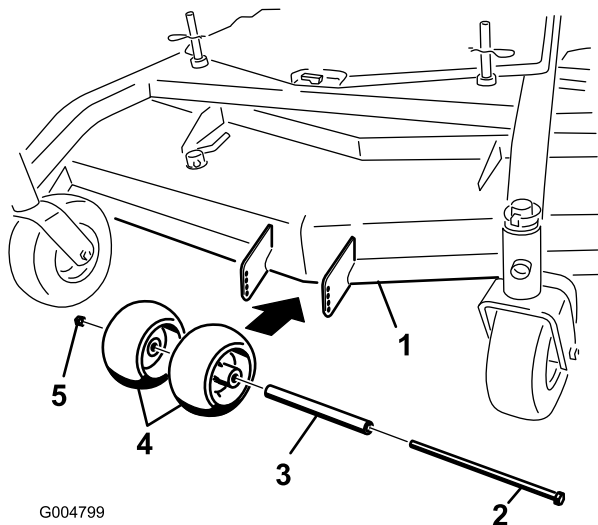
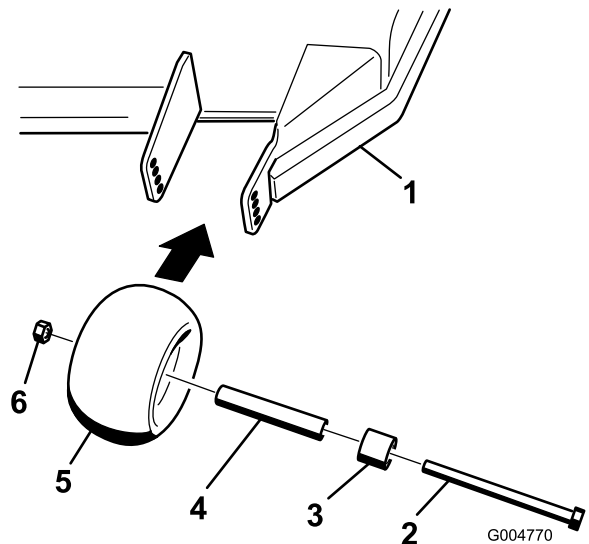

Figure 13
Figure 14
1. After adjusting the height-of-cut, check the anti-scalp rollers so that there is a minimum of 3/8 inch (10 mm) clearance above the ground (Figure 13 and Figure 14).
2. If adjustment is needed, remove the bolt, washers and nut (Figure 13 and Figure 14).
3. Select a hole position so the anti-scalp rollers are a minimum of 3/8 inch (10 mm) off the ground (Figure 13 and Figure 14).
4. Install the bolt and nut (Figure 13, Figure 14, @@@5).